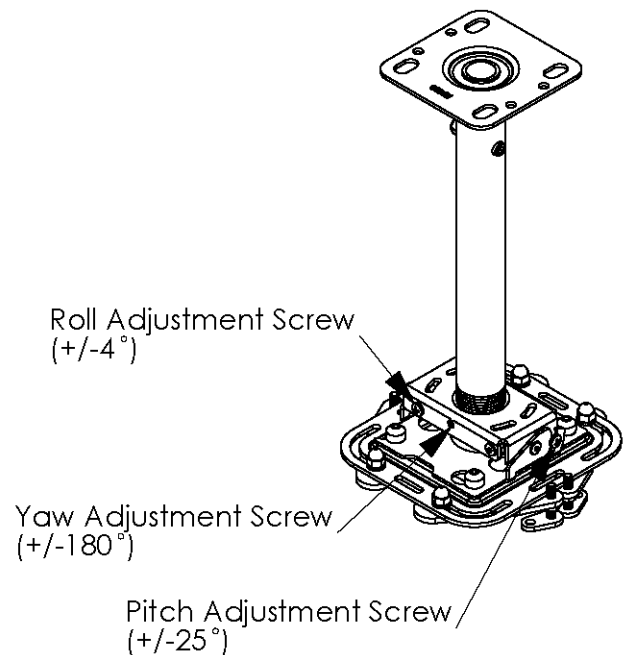

Figure 9. Pitch, Roll, and Yaw Adjustment
1. Loosen the pitch adjustment screw on each side of the Universal Ceiling Projector Mount (see Figure 9).
1. Loosen the roll adjustment screw on the face and back opposite the pitch clamp (see Figure 9).
1. Loosen the set screw (see Figure 9).